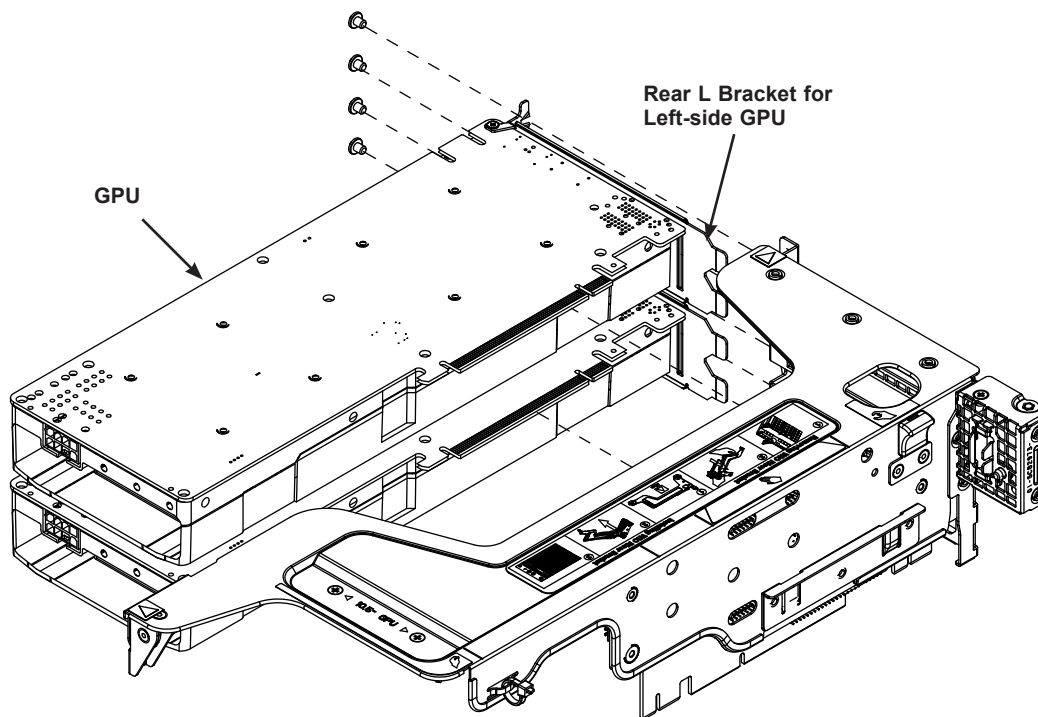

Figure F-3. Inserting the Left-side GPUs into the Riser Card Bracket
- Position the shroud as shown in Figure F-3. The right wall of the shroud just covers CPU2.